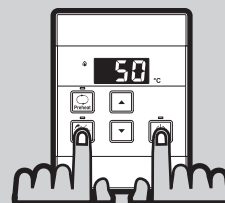

Fig. 3
**STEP 1:** For the water controller in the KITCHEN ONLY, press and hold the 'Priority Transfer' and 'On/Off' buttons simultaneously (Fig. 3) until a 'beep' is heard (approximately 5 seconds).